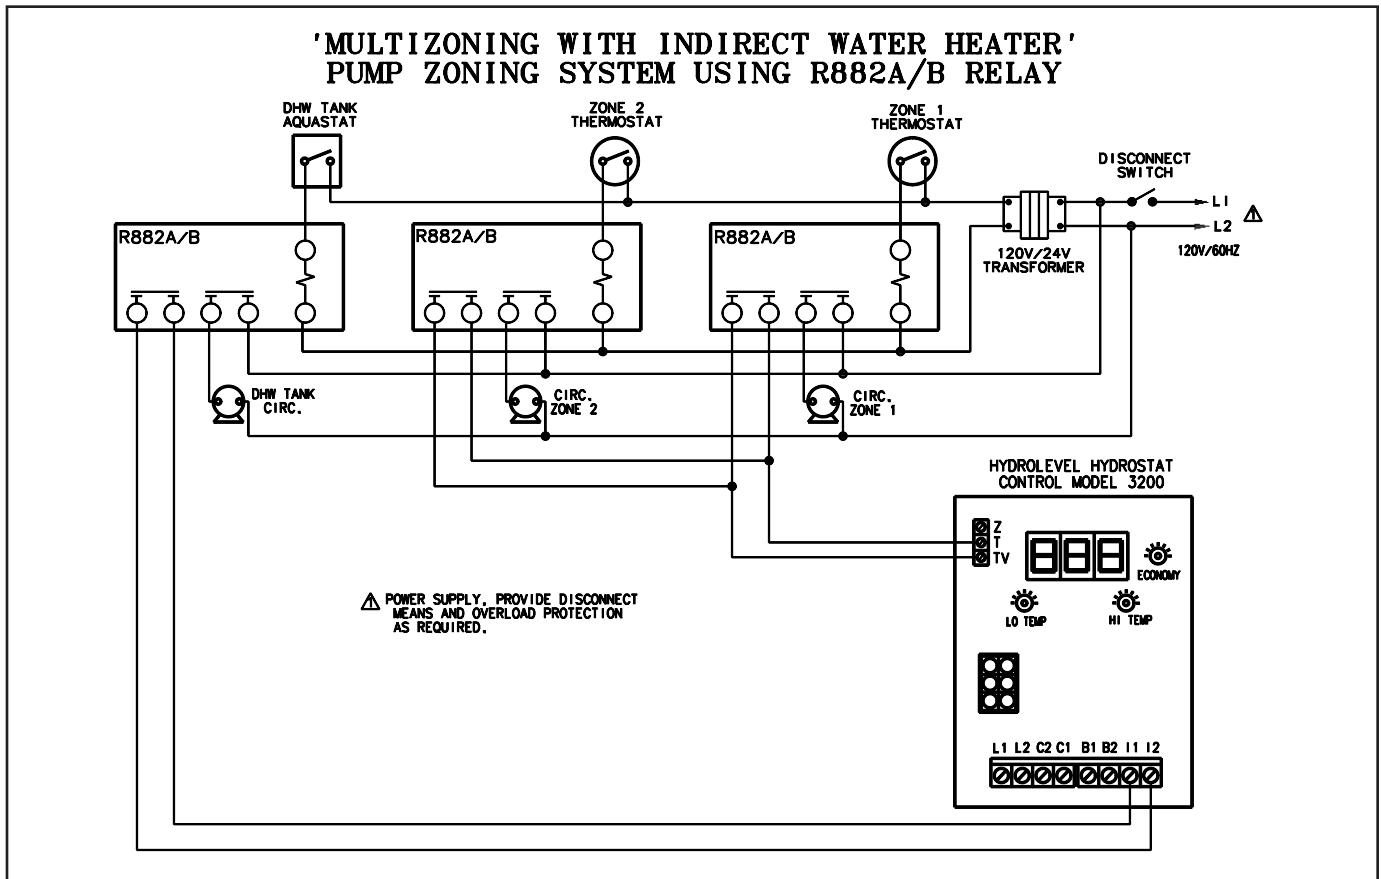

Figure 14.
If system includes indirect water heater, the indirect signal must be separated from heating zones(s) system. See figure 14 and 15. Follow steps below:
- c. Power DHW and heating zone(s) circulators through end switch relays as shown on figure 14. Do not connect heating zone(s) circulators to C1 and C2 of the control.